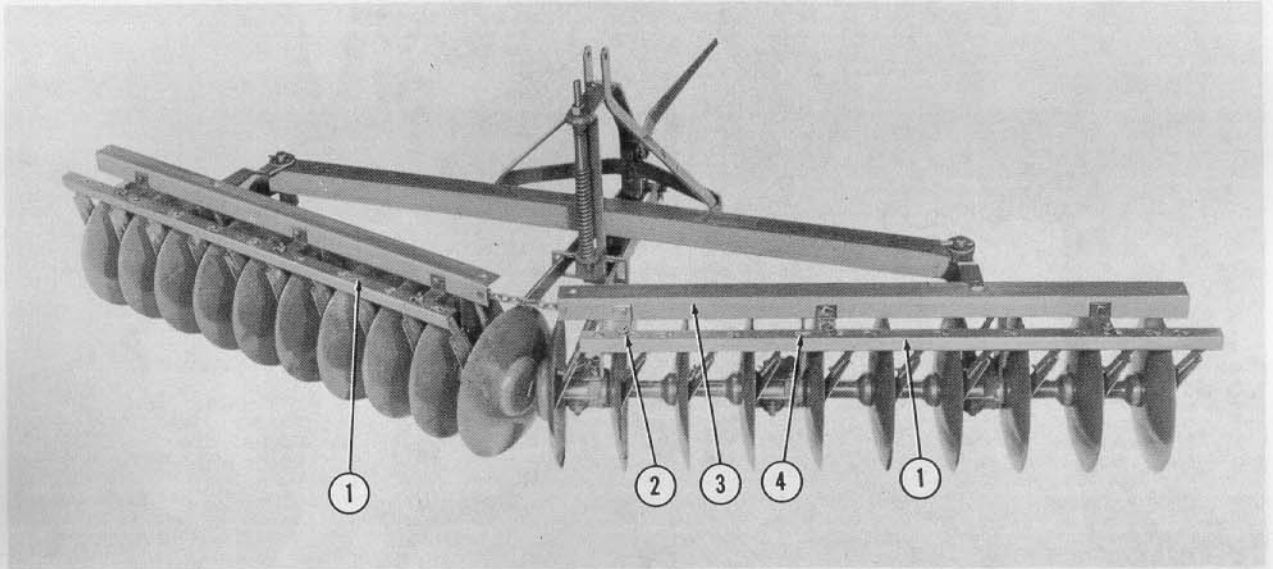

Figure 6
8. Attach scaper assemblies (1) to disc gangs by bolting scraper frame mounting brackets (2) to rear surface of disc angle frames (3) as shown in Figure 6.
NOTE: In order to align the bolt holes in the disc angle frame with those of the scraper mounting brackets, it may be necessary to loosen the scraper blade support bolts (4) and slide the bolts to the extreme end of the slotted holes as shown in Figure 6.